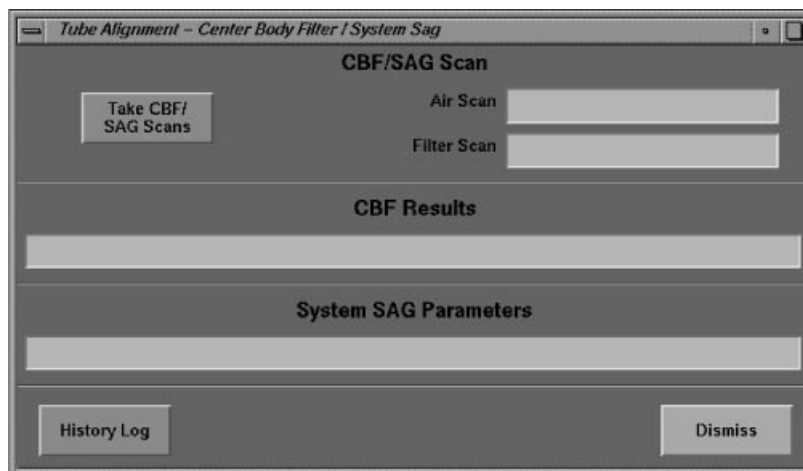

Figure 3-16 ADVANCED CBF/SAG SCREEN
- 3.) Refer to Figure 3-16. Select TAKE CBF/SAG SCANS.